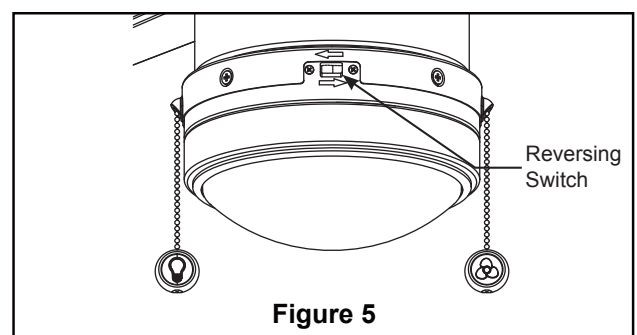

Figure 5
5. Secure the glass to switch cover/light kit assembly by twisting in a clockwise direction. Twist the glass gradually until it snaps onto the switch cover/light kit assembly. Do not over-tighten. (Figure 5)
5. If airflow is desired in the opposite direction, turn the fan off and wait for the blades to stop turning. Then slide the reverse switch to the opposite position and turn fan on again. (Figure 5)